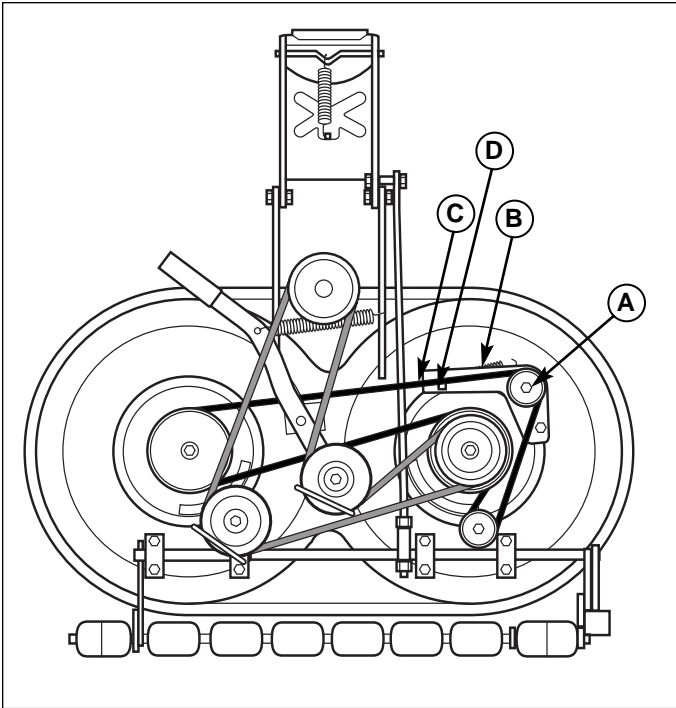
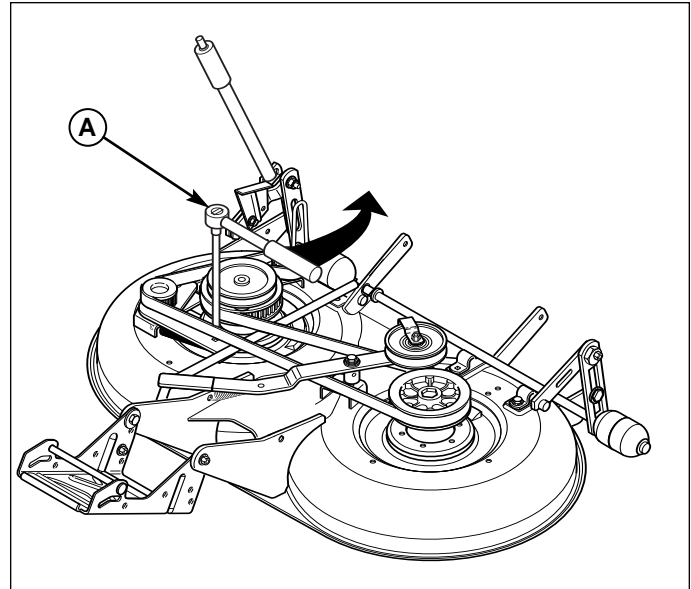
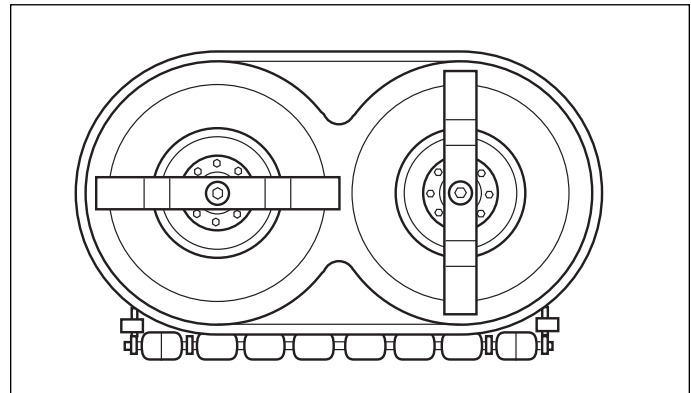

Figure 46. Mulching Deck (Belt Covers Removed)
Figure 47. Release Cogged Belt Tension
Figure 48. Mower Blade Timing
3. Loosen the idler assembly capscrew (A, Figure 46).
4. Using a ratchet (A, Figure 47), insert the end of the extension into the square hole (D, Figure 46) and move the idler assembly (B, Figure 46) to relieve tension on the belt (C).
5. Remove the belt (C).
6. Install a new belt (C) on the pulleys as shown. Releasing the idler assembly (A) allows the spring to automatically tension the cogged belt.
7. Tighten the idler assembly capscrew (A). Reinstall the belt covers.
8. Check that the blades are positioned perpendicular to each other (see Figure 48). If not, perform the mower blade timing procedure found in the Regular Maintenance section.